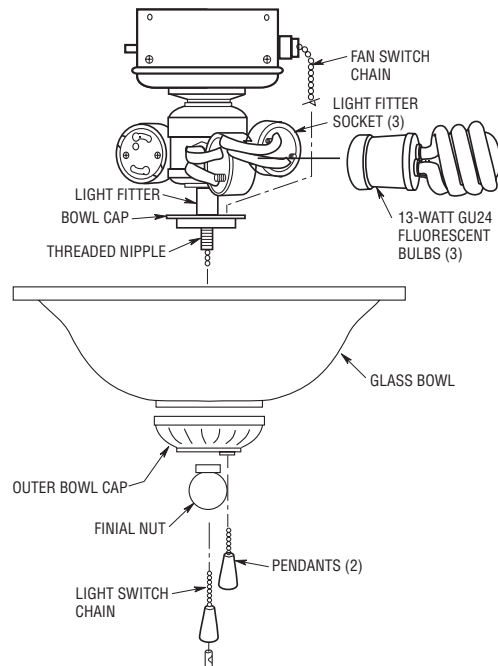

Figure 16
- 6. Install three GU24 fluorescent bulbs (supplied) into the light fitter sockets (Figure 16).
- 7. Remove the finial nut and outer bowl cap from the light fitter (Figure 16).
- 8. Pass the fan switch chain through the bushing in the bowl cap (Figure 16).
- 9. Position the glass bowl over the threaded nipple and seat bowl on bowl cap (Figure 16). Pass the fan pull chain through the bushing in the outer bowl cap and install the cap on the threaded nipple. Install nut finial finger tight.